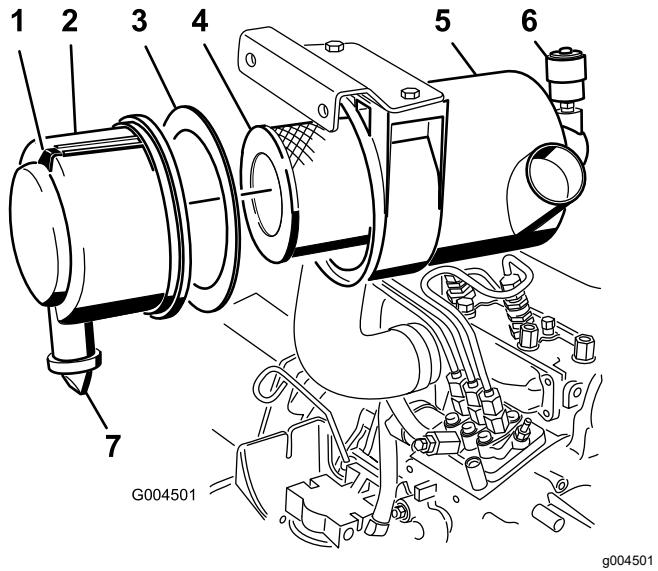

Figure 40
- Service the air-cleaner filter when the air-cleaner indicator shows red (Figure 40).